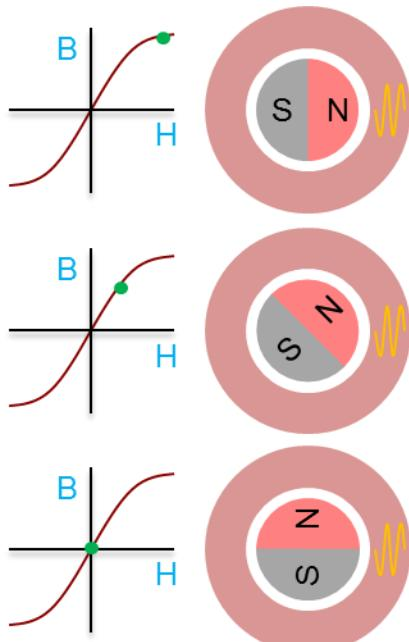

Figure 75: The permanent magnet of the rotor biases the BH curve of the stator iron which can be used to find the location of the north pole.
The magnetic field strength will bias the stator's BH curve operating point as shown in Figure 75. Supporting and opposing magnetic fields are applied with the stator coil. When both fields add, the BH curve is pushed further into saturation. The BH curve operating point moves further into the linear region when the magnetic fields oppose. The difference in inductance between these two BH curve operating points allows the motor controller to determine where the rotor north pole is located.
- As described in Figure 75, the magnitude must be large enough to put the BH curve of the stator iron into saturation. Caution must be exercised so the iron is not saturated too much. The figures below illustrate when the current is too high and just right.